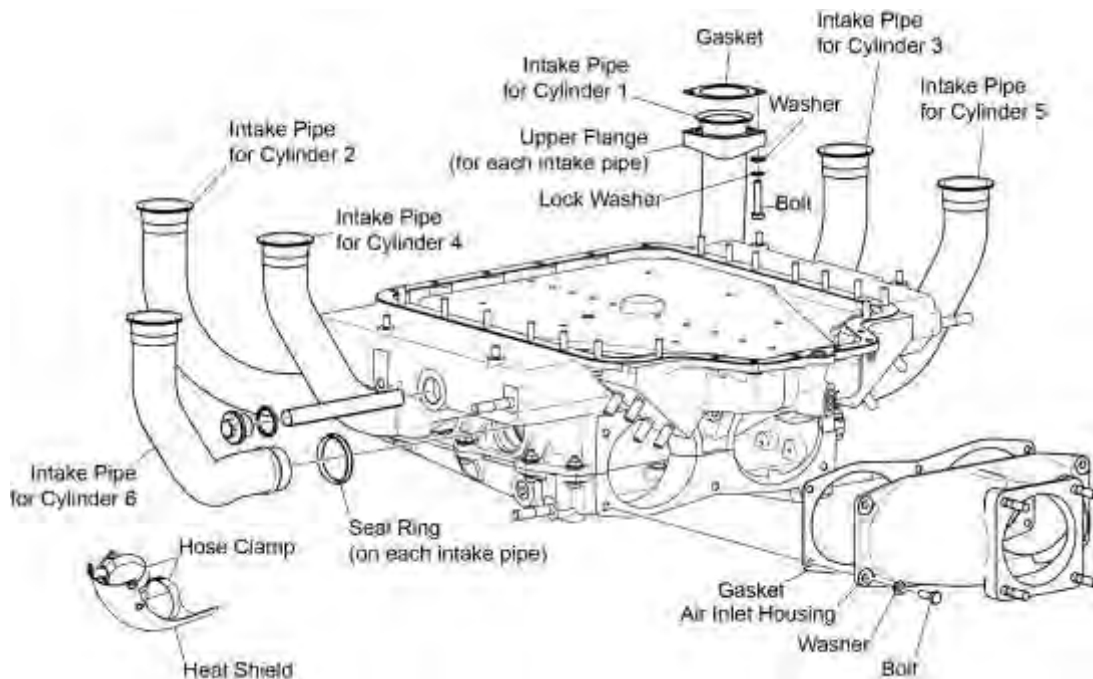

Figure 2
NOTICE: Each engine cylinder has a corresponding intake pipe of a different part number. Be sure to replace the intake pipe with the correct replacement intake pipe that corresponds to the engine cylinder number (Figure 2). Refer to the ***TEO-540-C1A Illustrated Parts Catalog*** for the part numbers of the correct replacement intake pipes.
- (1) If removing intake pipe (Figure 2) for either Cylinder Nos. 5 or 6, loosen the hose clamps and remove the heat shield and two hose clamps.
- (2) Remove the two bolts, lock washers, and washers from the intake pipe flange at the engine cylinder (Figure 2). Discard the lock washers.
- (3) Remove the gasket from the intake pipe, discard the gasket.
- (4) If the intake pipe is not to be replaced, attach a label to the intake pipe that identifies the corresponding engine cylinder number for reference on assembly.
- (5) Remove the intake pipe and seal ring at the oil sump connection. Discard the seal ring.
- (1) Install the intake pipe with a new seal ring at the oil sump (Figure 2) in the oil sump opening for the corresponding cylinder.
- (2) Attach the corresponding intake pipe to the correct engine cylinder flange with a new gasket, two bolts, two new lock washers, and two washers. Torque the two bolts to 96 to 108 in.-lb. (11 to 12 Nm).
- (3) Install a heat shield with two hose clamps. Tighten the hose clamps to hold the heat shield securely in place.